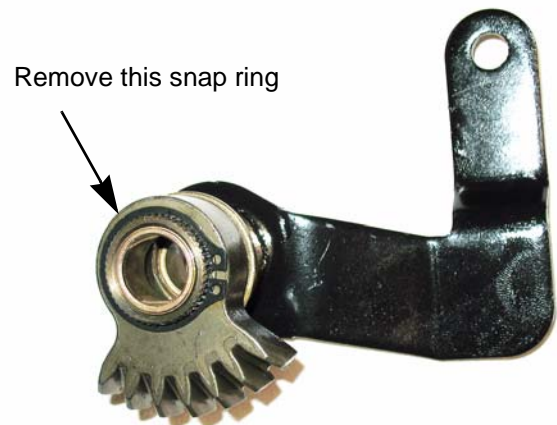

Figure 6.37
11. Separate the output bevel gear assembly by removing the snap ring. See Figure 6.37.